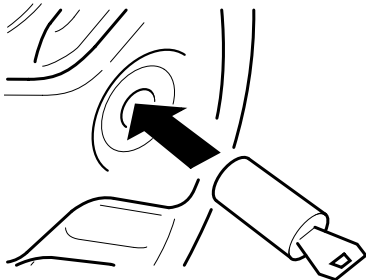

Fig. 8
- Remove screw from back plate. (Fig. 8)
- Insert barrel lock. (Fig. 8)